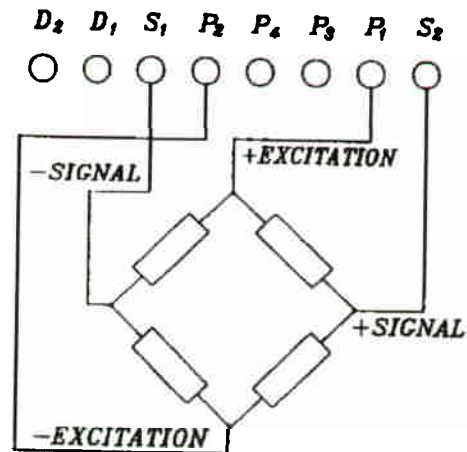

FIGURE 4-1
2. Connect the strain gauges to be measured to the terminals at the rear of the instrument as shown in figures 4.1 through 4.5 and as described below.